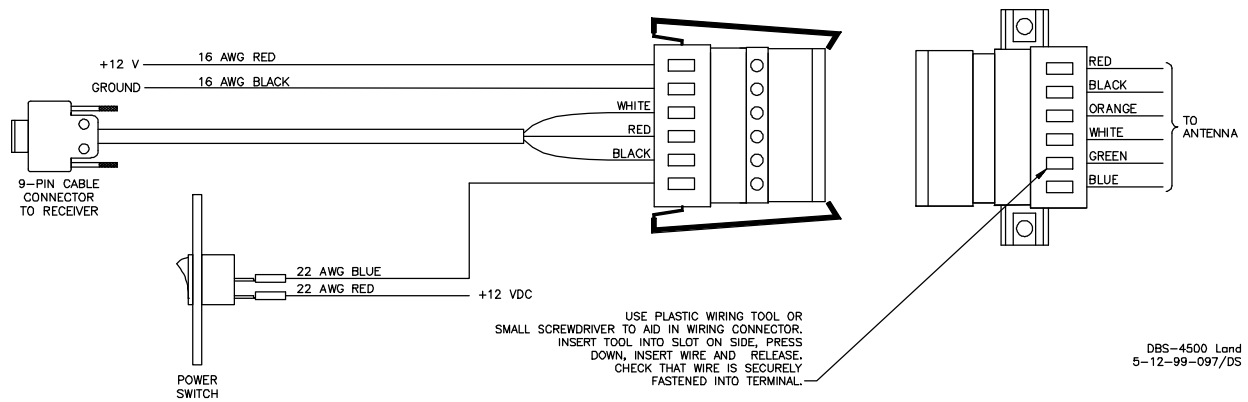

Figure 4-11. ACU Power Connection Wiring
Once the antenna control cable has been connected and properly sealed and tied down on the roof of the vehicle, it is time to attach the Antenna Control cable to the gray “Wago” connector that is part of the Receiver Control cable. Please refer to Figures 4-11 while reading these instructions.
Plug the Receiver Control cable into the satellite receiver using the 9-pin connector and wire the power connections as shown in Figure 4-11. This cable will plug into the low speed data port. Make sure the Antenna Control cable is long enough to reach the gray “Wago” end of the Receiver Control cable.
The Control cable will connect to the Receiver Control cable as shown in Figure 4-11. Measure the Control cable and cut any excess length, then strip back the jacket 3 inches, use caution to avoid nicking the individual wires. Strip ¼-in. of insulation from each of the individual six Control Cable wires color-coded red, black, orange, white, green, and blue. Insert each wire into the appropriate terminal, using a plastic insertion tool, Wago P/N 231-131, included or small screwdriver. It is not necessary to tin the bare wire leads. The gray “Wago” connector has two mounting ears and may be mounted in any location that is convenient. Make sure the connection is on the wire and not on the wire insulation. Cut off the silver colored shield wire, it is not used.
Refer once again to Figure 4-11. As shown in this drawing there are two 16 gage wires, one red and one black, these wires will connect to a 12-volt DC power source. The red 16-gauge wire will connect to positive 12 volts and the black 16-gauge wire will connect to ground. It is not necessary to install a fuse in-line with this connection, the DBS-4500 electronics is designed with an integrated resetable fuse. Do not apply power at this time.
- Step 7** Connect the 22 gage red wire to any positive 12 volt power source and connect the blue wire to the Receiver control connector as shown in Figure 4-11.
Remove the communication port cover from the EchoStar receiver, (see the compatibility matrix in Appendix A, at the end of this manual for a list of compatible receivers), install the RS-232 interface box and attach the mounting screws. Next attach the adapter cable to the conversion box via the 9-pin connector. Attach the remaining end of the adapter cable to the DBS-4500 serial 9 pin connector (see Figure 4-11). Installation is now complete. CruiseTV will automatically identify the EchoStar receiver at power up.